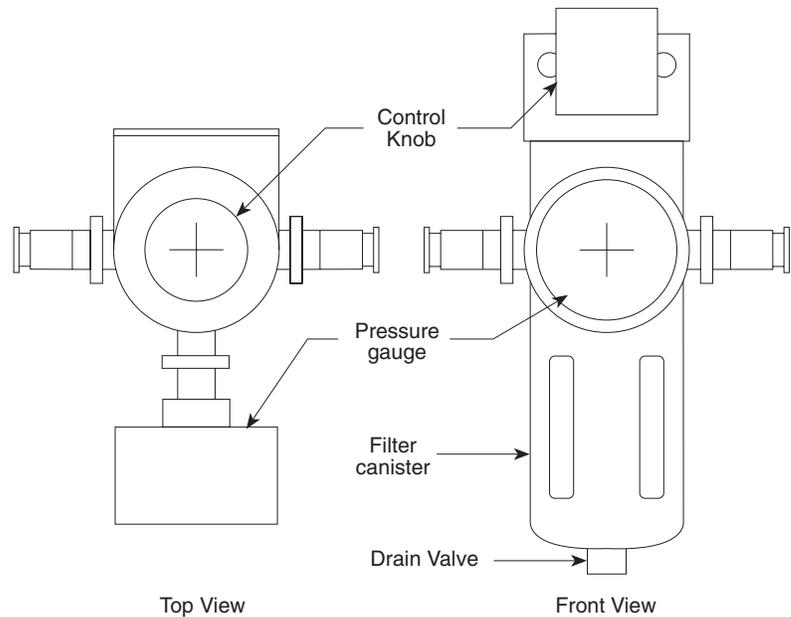
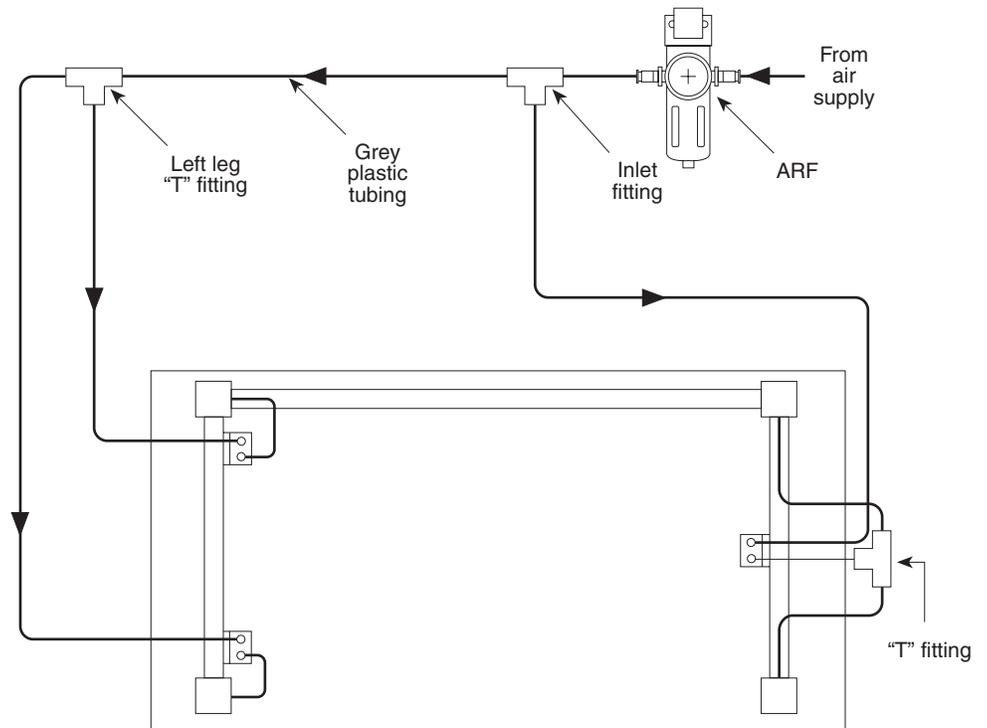

Figure 2.3 — ARF
Figure 2.4 — Air System Diagram
The VW Workstation is shipped with the air regulator/filter (ARF), figure 2.3, and leveling valves installed on the leg assemblies.
- A. Using the gray tubing provided connect the yellow inlet fitting on the right leg assembly valve (single valve) to the "T" fitting on the left leg assembly (see figure 2.4). To connect the tubing to the fittings, insert and firmly press the tubing into the fitting. (Warning: Do not attempt to disconnect the tubing once the system is pressurize.) Route the tubing along the rear brace and secure it in position using the stick-on tubing clips.
- 2c. Install the leveling valves and ARF as shown in figures 2.3, and 2.6. Plumb the air system with the tubing provided per figure 2.4. The grey tubing has been pre-cut to the proper lengths. Secure the tubing in place along the VW frame using the stick-on tubing clips provided.